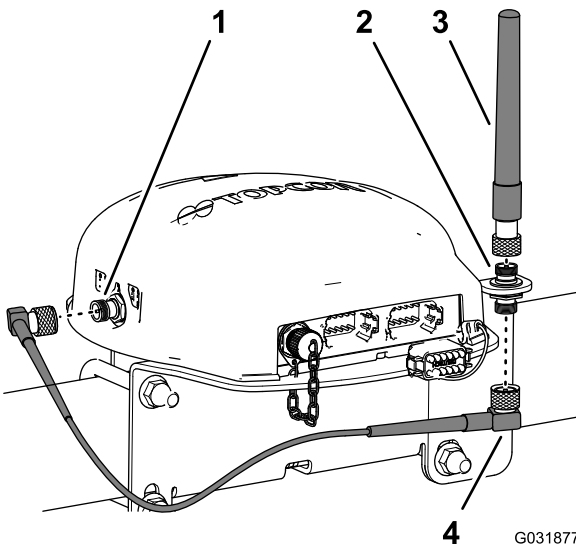

Figure 154
- Assemble the RTK antenna onto the upper fitting of the coaxial coupler, and tighten the knurl nut of the antenna by hand (Figure 154).
- Loosely assemble the antenna cable to the lower fitting of the coaxial coupler (Figure 154).
- Route the cable around the back of the navigation receiver to the coaxial connector of the CDMA or GSM cellular modem (Figure 154).
- Assemble the antenna cable to coaxial connector of the CDMA or GSM cellular modem (Figure 154).